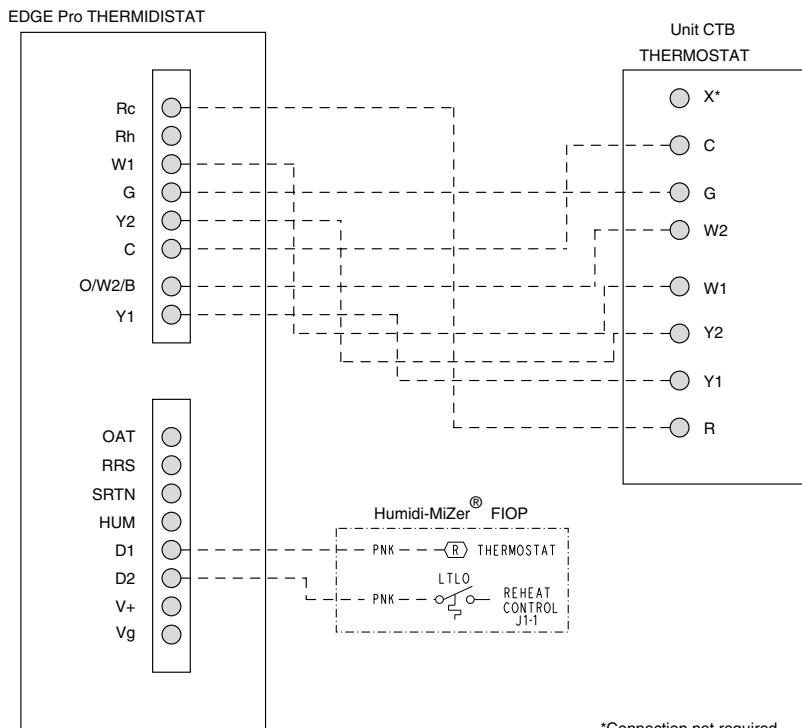

Fig. 53 — Typical Rooftop Unit with Humidi-Mizer Adaptive Dehumidification System with Edge Pro® Thermidistat Device
3. The Thermidistat has dry contacts at terminals D1 and D2 for dehumidification operation (see Fig. 53). The dry contacts must be wired between CTB terminal R and the PINK lead to the LTLO switch with field-supplied wire nuts. Refer to the installation instructions included with the Carrier Edge Thermidistat device for more information.